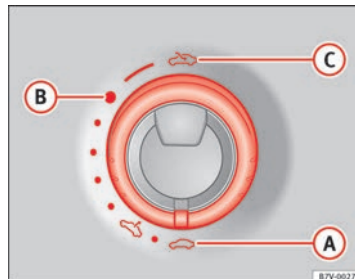

Fig. 57 On the interior roof lining: use the rotary button for opening and closing
⇒ Fig. 57
- The ⇒ Fig. 57 ① switch should be in the “closed” position ①.